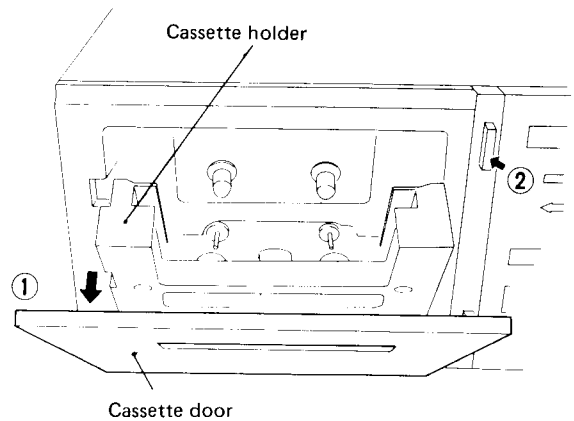

Fig. 1
3. Remove the cassette door from the cassette holder by pulling the door outward (Fig. 1).